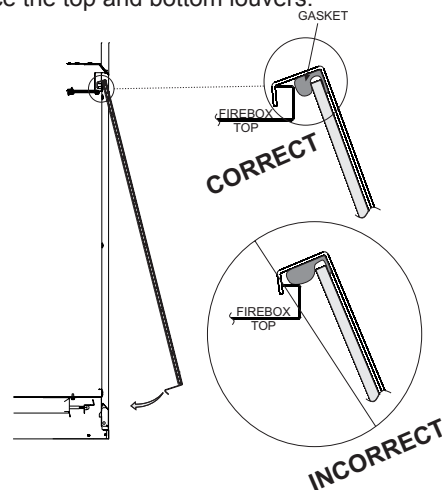

Figure 26
1. When installing the Glass Door assembly, make sure that the door top flange is hooked over the firebox top flange as illustrated in the "Correct" view in Figure 26.
Important: Do not allow the gasket across the top of the door to roll up on top of the firebox flange as shown in "Incorrect" view in Figure 26.